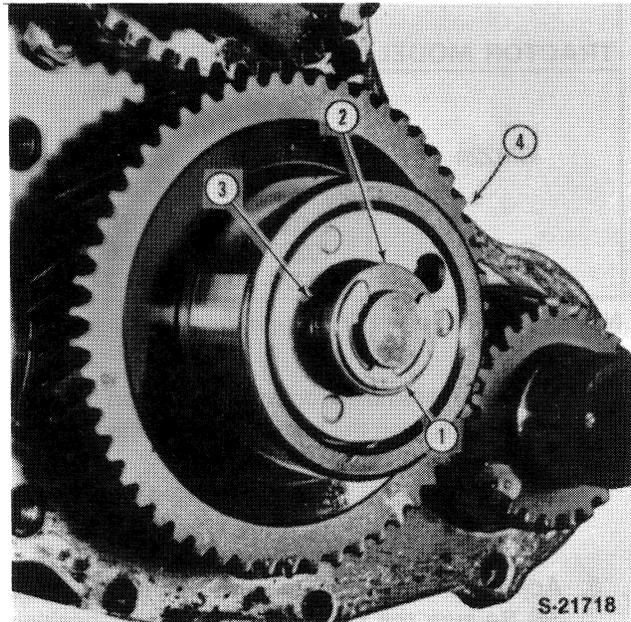

Figure 38
The oil pump is located inside of the idler gear (4), Figure 38 at the front of the engine.